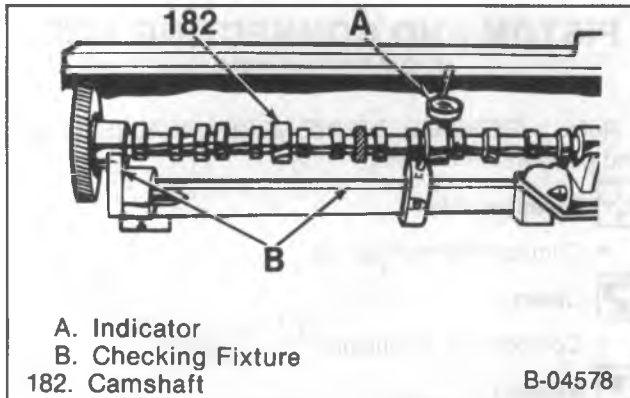

Figure 26—Measuring Camshaft Journal Runout
Measure (Figures 26, 27, and 28)
- Camshaft (182) runout (figure 26). Mount the camshaft between centers or in V-blocks. Using J-7872 (or equivalent), check the intermediate camshaft journals. If runout exceeds 0.020-inch, the camshaft is excessively bent and should be replaced, along with the camshaft bearings.